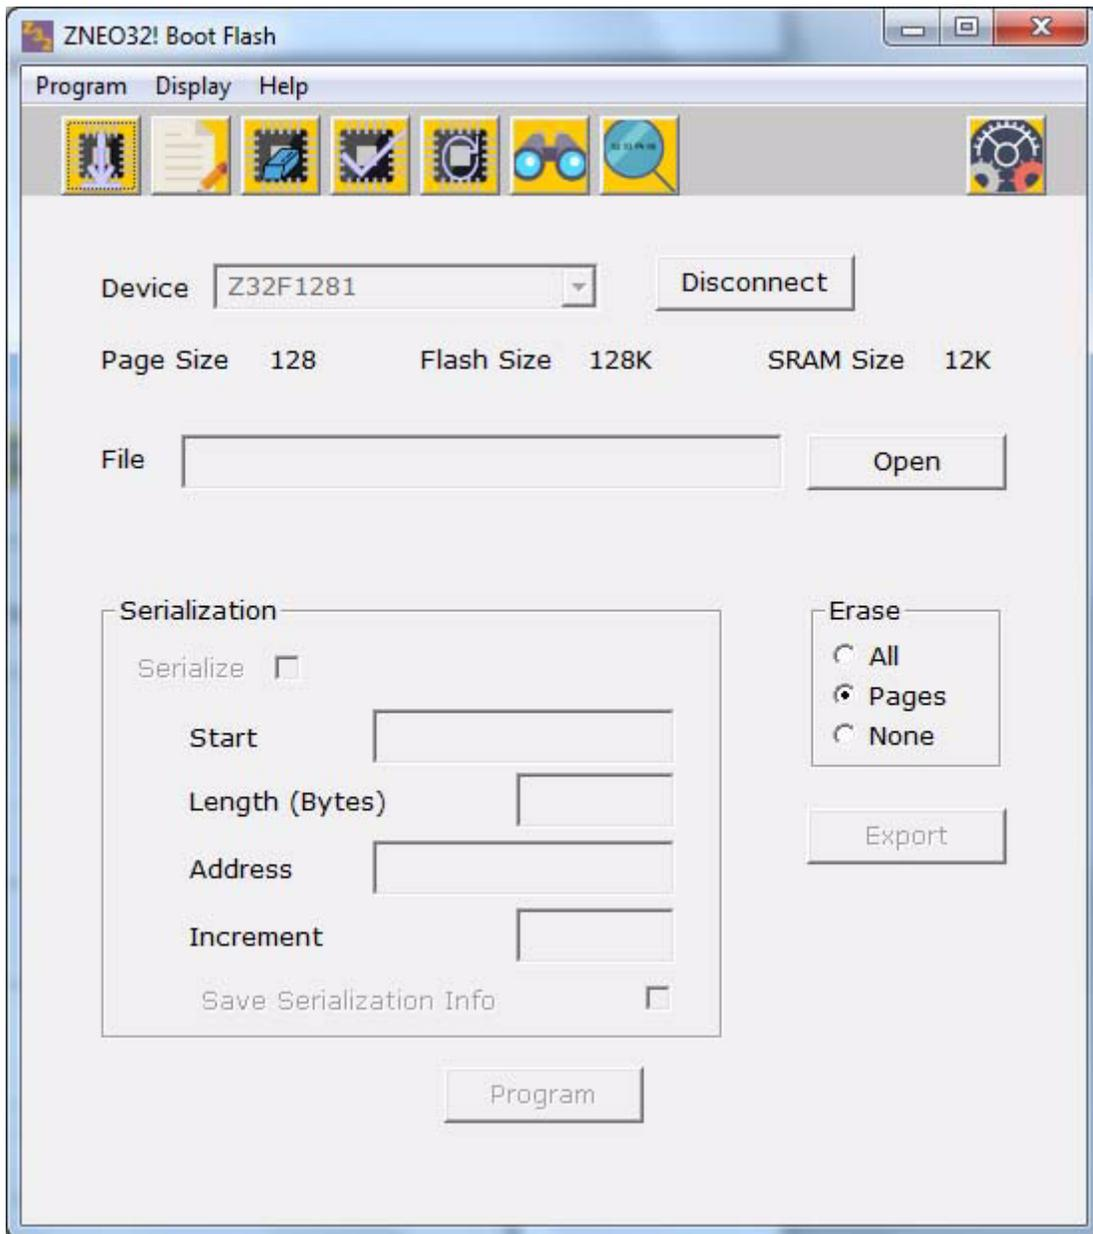

Figure 5. Program the Device
1. Click the **Open** button to select a file from the screen shown in Figure 5.